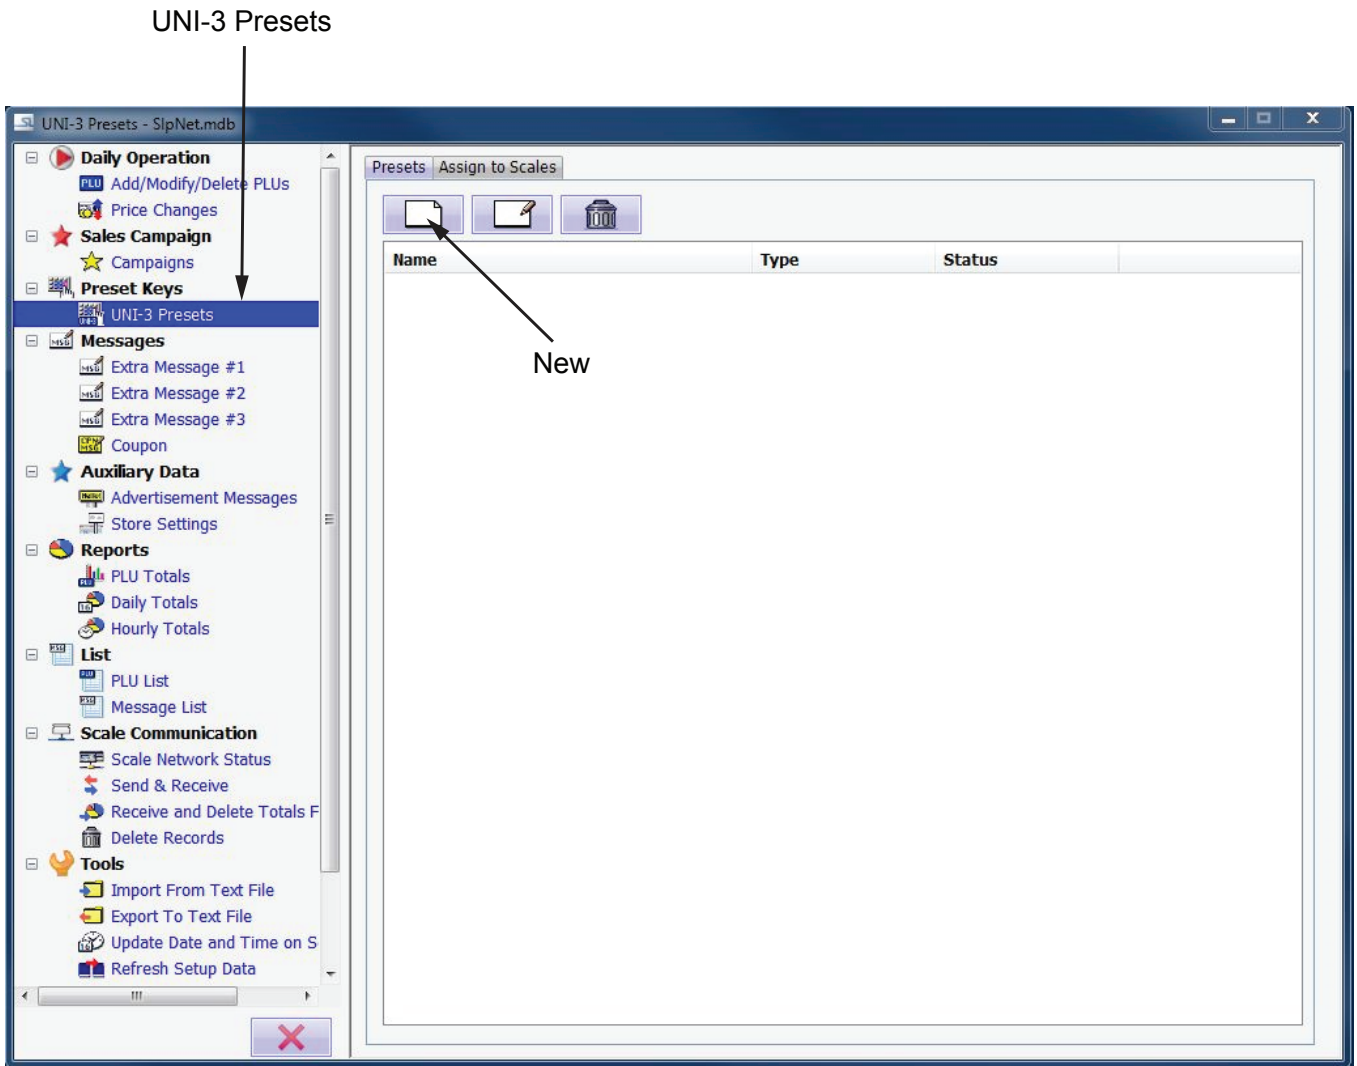

Figure 27-1
1. Open SLP-V Lite and select UNI-3 Presets from the Preset Keys dropdown menu. See Figure 27-1.